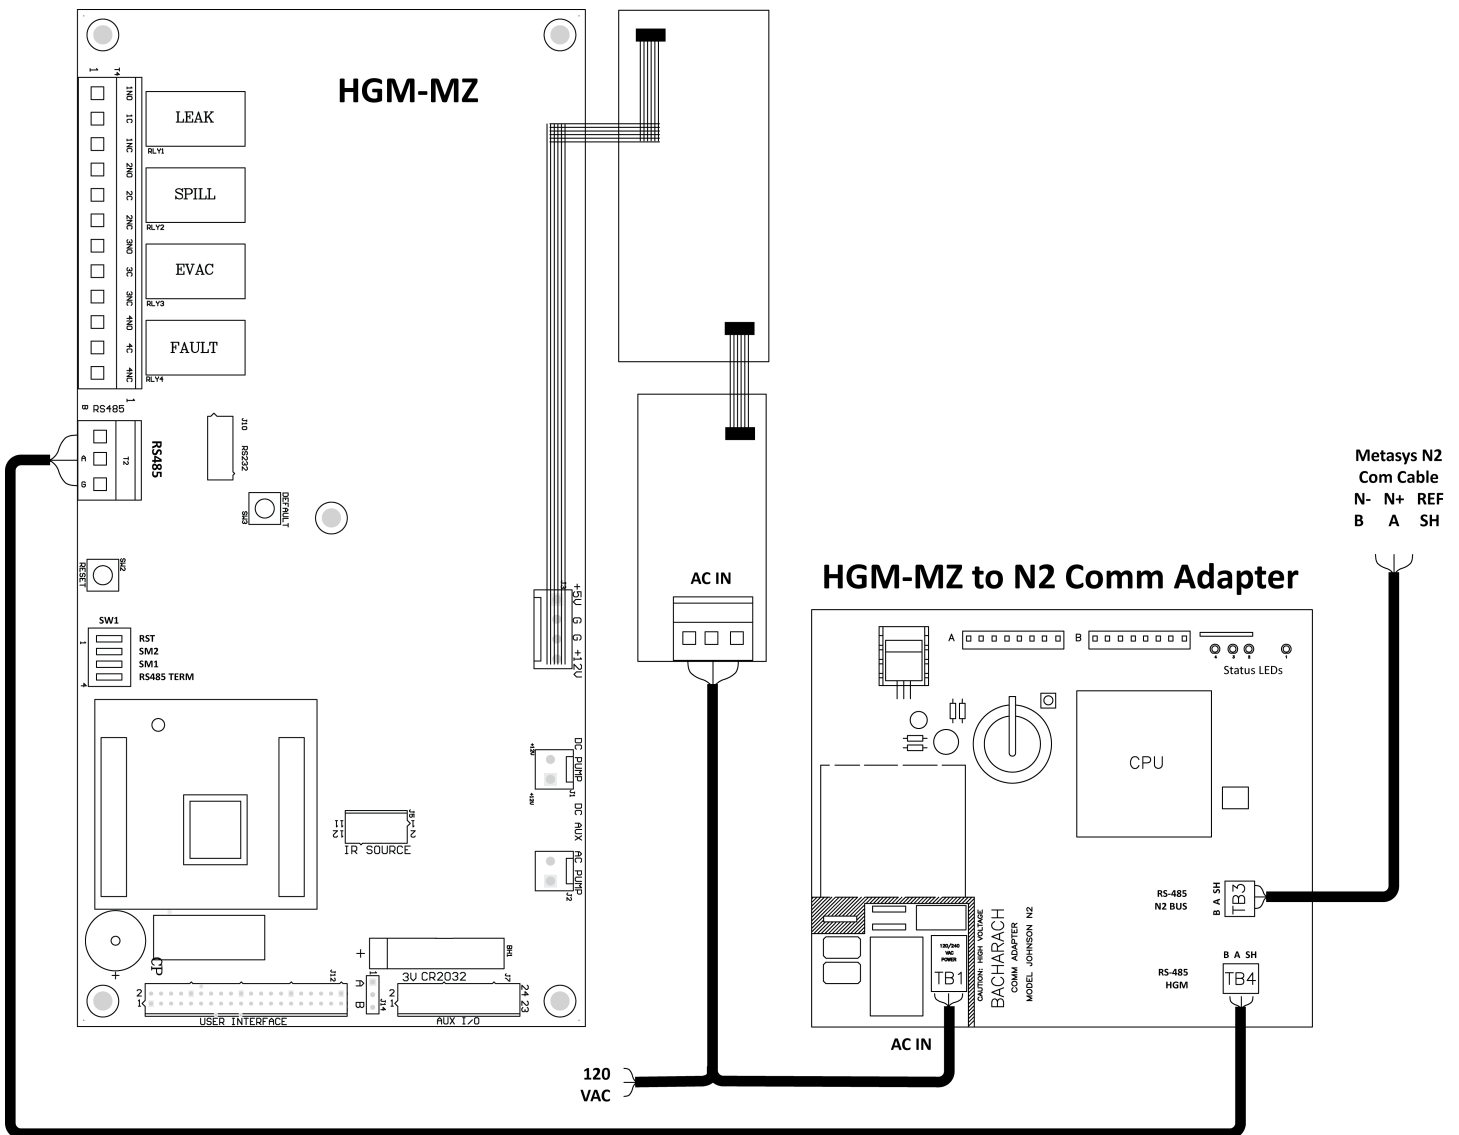

Figure 1 – Wiring w/o Remote Display
3.	If an MZ-RD remote display is NOT used with the adapter, refer to Figure 1 for wiring details. In this case, all wiring between the HGM-MZ and the only external cable is the N2 communications cable.